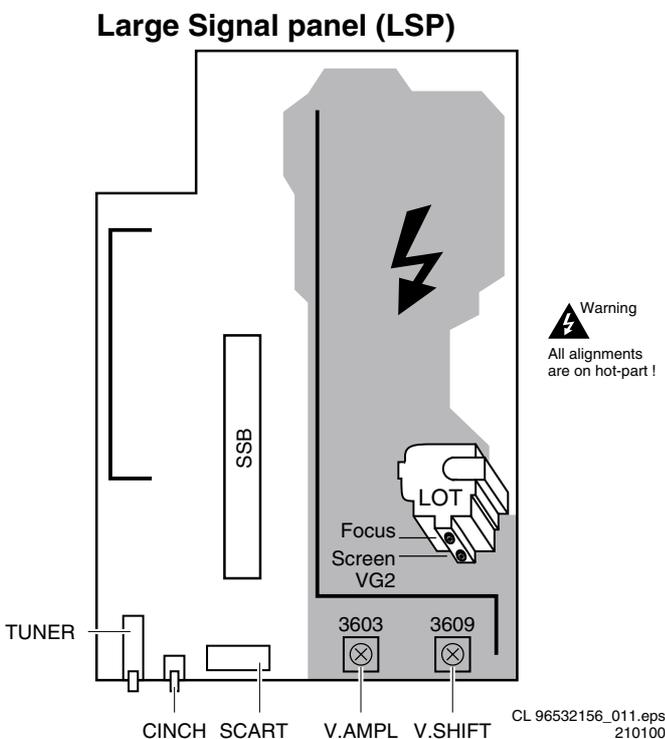

Figure 8-1
2. Adjust the Focus potentiometer (upper potmeter, see figure 8-1) for an overall optimum focusing of the picture.
4. Adjust the Vg2 potentiometer (lower potmeter, see figure 8-1) so that the measuring pulse with the highest noted level is on $160 \pm 3\text{ V}_{\text{DC}}$ level.
2. Align the vertical amplitude with R3603 (see Fig. 8-1) so that the complete test pattern is visible.
2. Align the vertical centering with R3609 (see Fig. 8-1) so that the test pattern is located vertically in the middle.